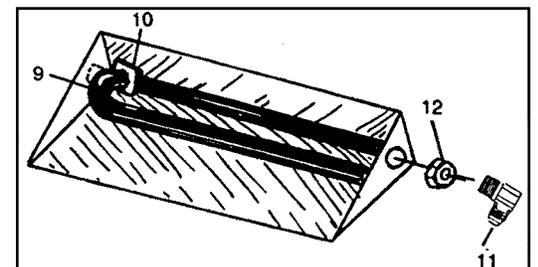

Figure 6 - Burner bar connection
D. Secure the intake end of the Dual burner bar (Part #9) to the burner pan (Part #8) through the knockout hole selected (right or left hand) with the 3/8" brass orifice elbow (Part #11) and 3/8" locknut previously assembled in Step B (See Figure 6).